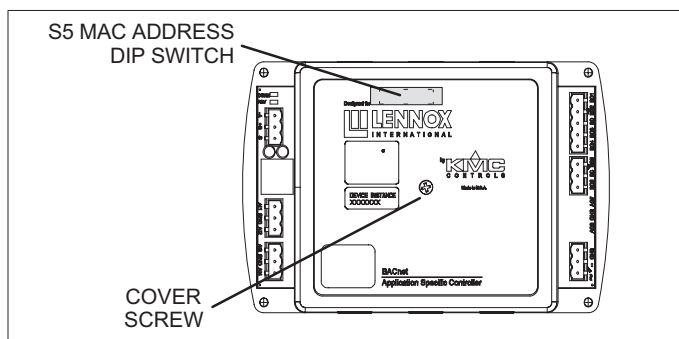

Figure 10. BACnet MAC Address Dip Switches Location (S5)
- b. Set the DIP switch S5 (see figure 10) to the desired address combination. The individual DIP switch channels will be summed to determine the MAC address (e.g. switches 1, 2, and 16 active will produce a MAC address of 19).